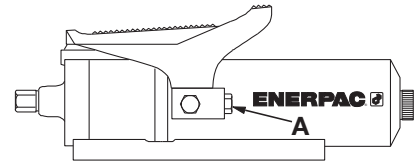

Figure 3
1. See Figure 3. Remove pipe plug from the female 3/8" NPTF hydraulic swivel connector (A), and install the male end of a 3/8" NPTF hydraulic fitting. The fitting can be a high flow coupler, hose, or gauge adaptor.